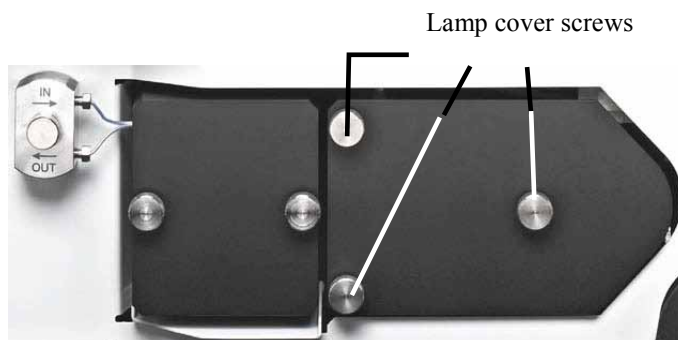

Fig. 31: Lamp housing cover
10. Reinstall the lamp house cover (→ Fig. 31). Route the wires through the guides on the lamp cover inside to prevent them from being pinched under the lamp cover.